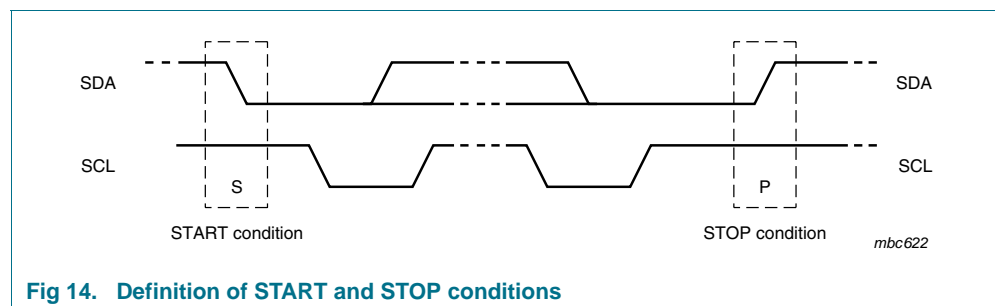

Fig 14. Definition of START and STOP conditions
A LOW-to-HIGH change of the data line while the clock is HIGH is defined as the STOP condition (P). The START and STOP conditions are shown in Figure 14.